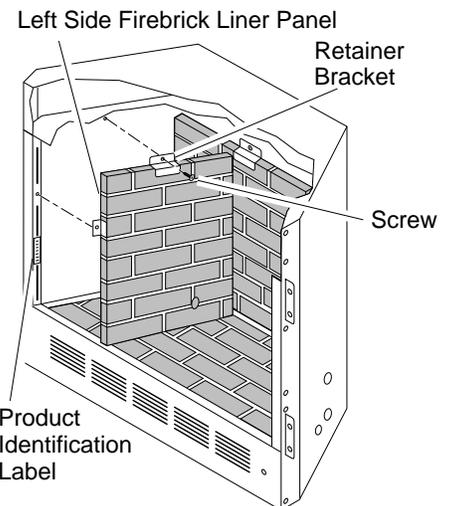
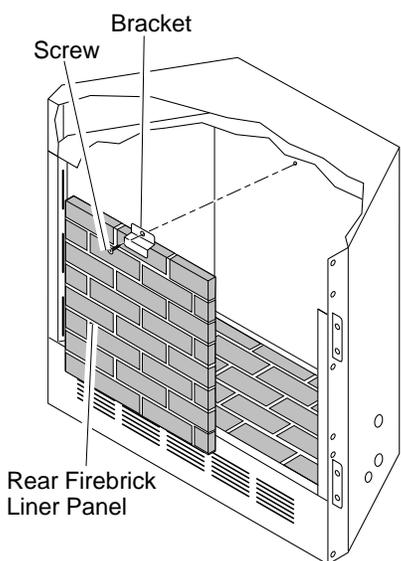

Figure 15 - Removing Side Panel
Figure 16 - Removing Rear Firebrick Liner Panel
- Carefully replace firebrick panels in reverse order (see Figure 15, page 11 and Figures 16 and 17, this page).
Note: The firebox identification label (including model number, serial number, clearances, etc.) is located behind the left side firebrick panel. See Figure 15, page 11.